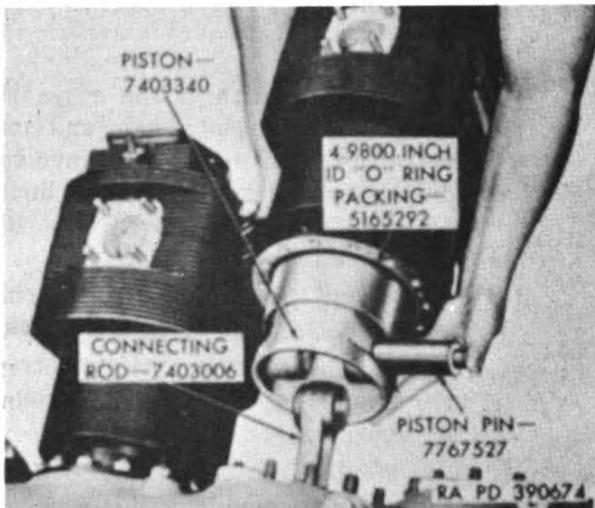

Figure 173. Installing cylinder.
- (2) Remove four extended washer hex nuts from crankcase thru bolts on No. 5 and 6 cylinder mounting pads and remove thru bolt straps.
- (3) Press piston pin of No. 5 piston to one side of piston pin boss. Position the cylinder, with installed piston, over the connecting rod as shown in figure 173. Aline piston pin bore of piston and connecting rod piston pin bearing and insert piston pin through connecting rod and center it in piston. Remove connecting rod protector (fig. 54) and push cylinder forward over piston and onto mounting studs.